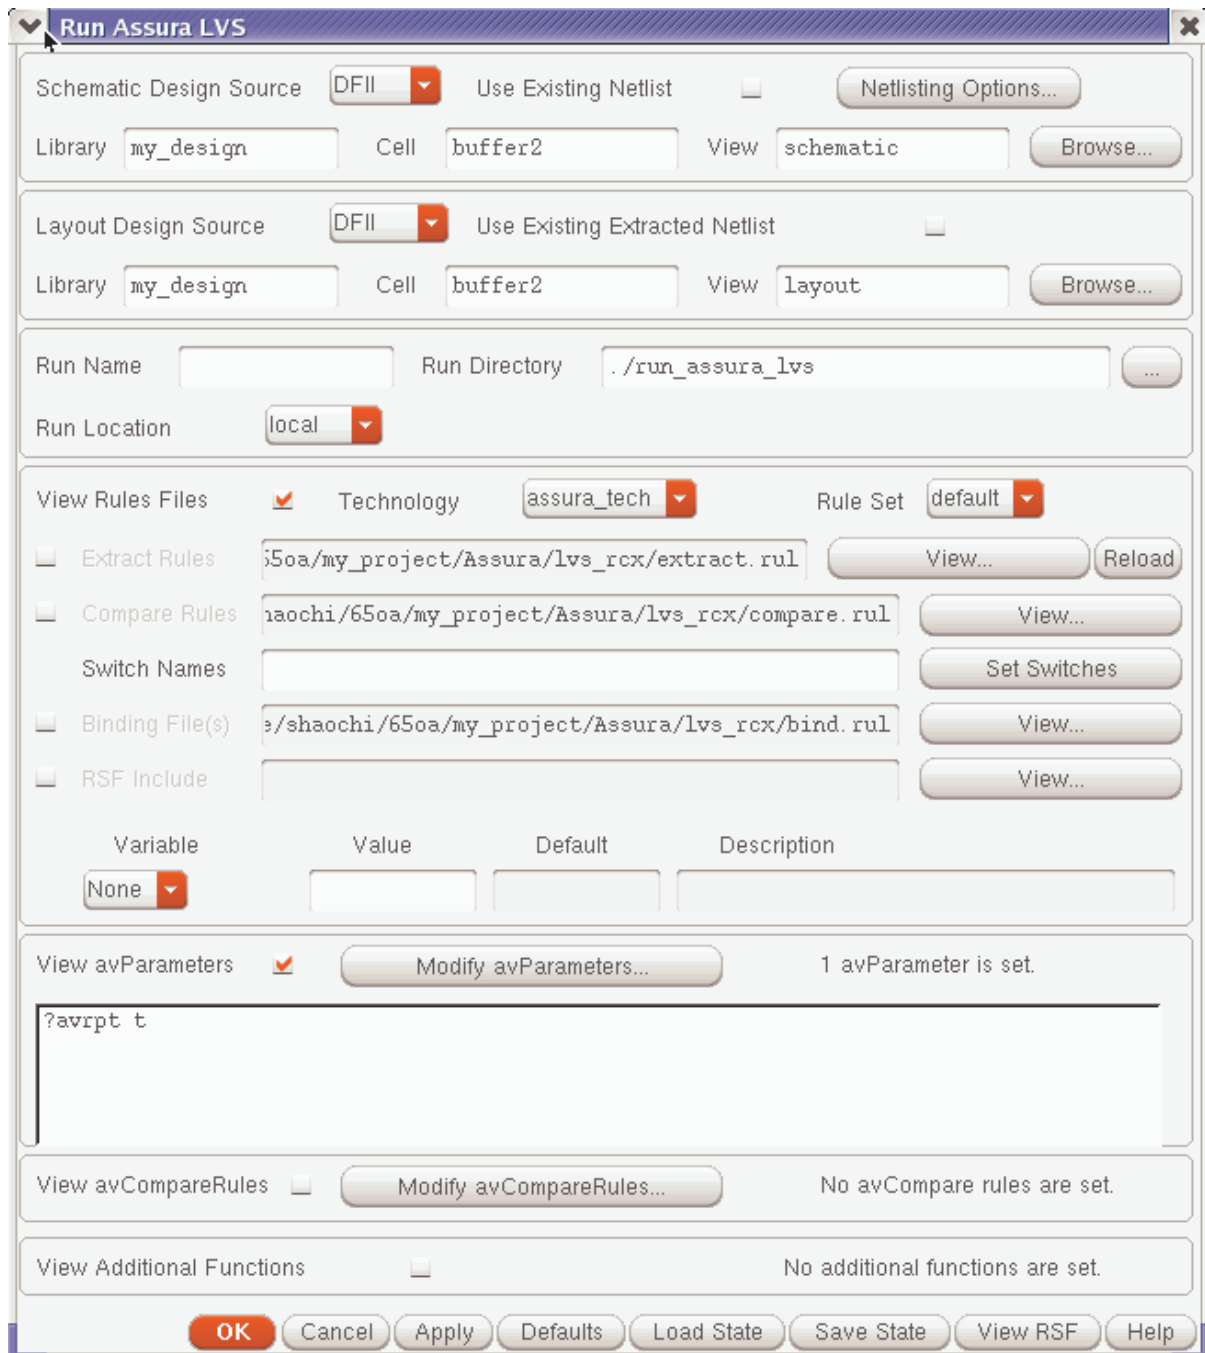

FIG. 37 Assura LVS setup window
2. Fill in the “Assura run directory” and select the “Technology” field to “assura_tech” (Fig. 37) in Assura LVS window. You can also set the Assura LVS switches and other parameters if needed.